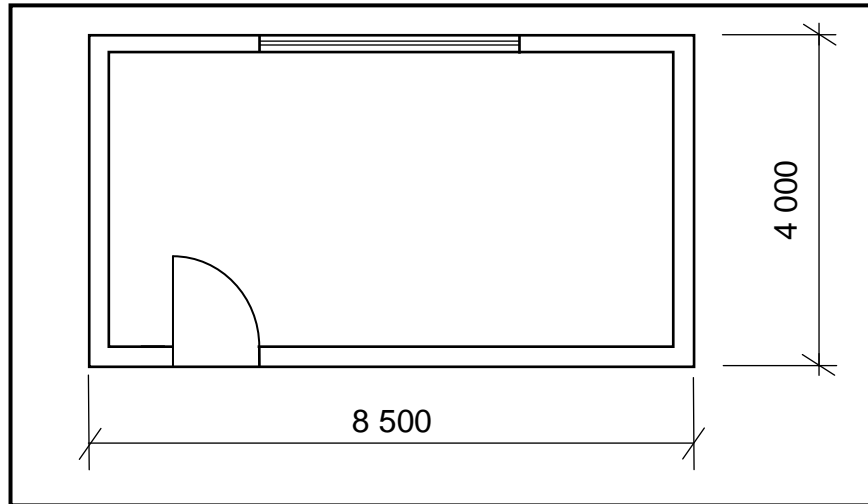

FIGURE 6.7
6.7 FIGURE 6.7 below shows the floor plan of a store room with a window and a door.